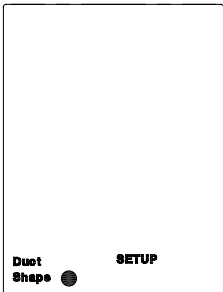

Fig. 4
3. Press **▲/Unit** or **Unit/▼** button to toggle between "■" (rectangle) and "●" (circular) shapes (Fig. 4).